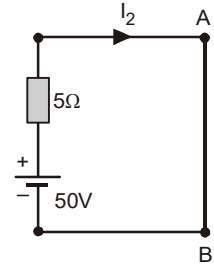

Fig.1.125: Considering only voltage source.
- (ii) Considering only voltage source, The circuit will be as shown in fig.1.125.